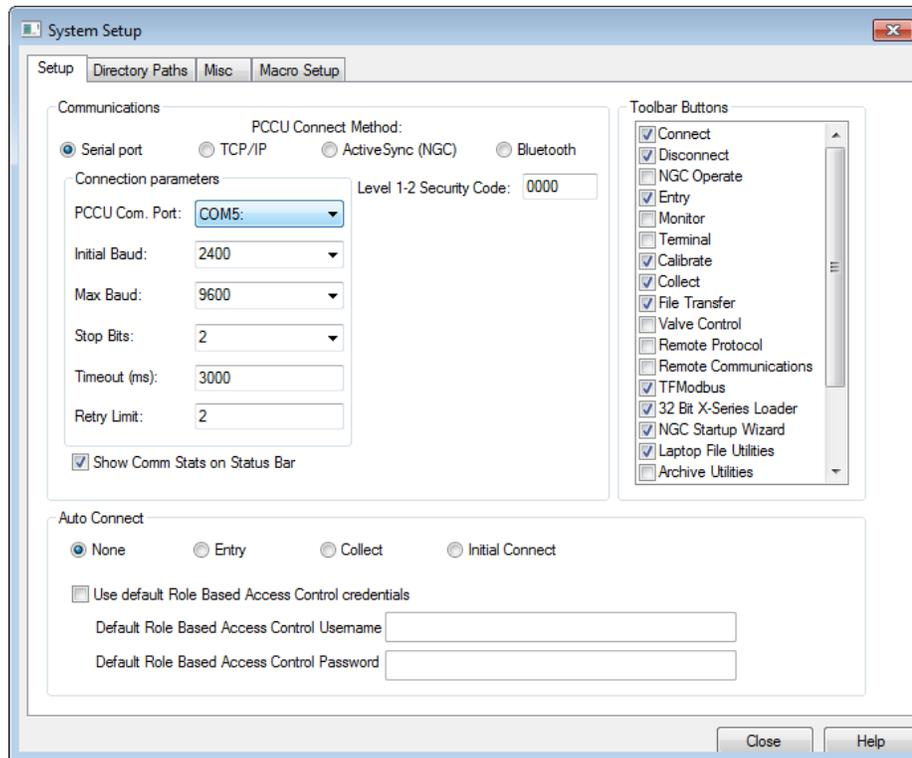

Figure 29: Serial local communication setup
- ii. Define the **Connection parameter**. To connect via the serial port, select the PC communication port containing the local cable connection (Figure 29) as the **PCCU Com. Port**.